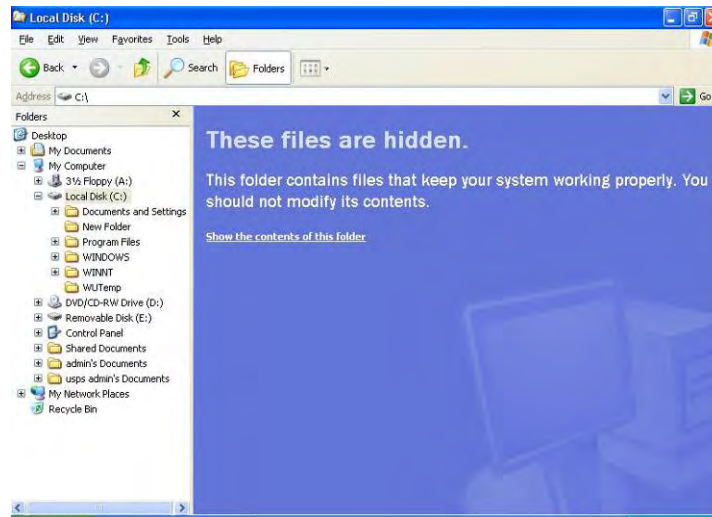

Figure 1-71. These Files Are Hidden
3. If a message is displayed saying, "These files are hidden", click on **Show the contents of this folder** (Figure 1-71).